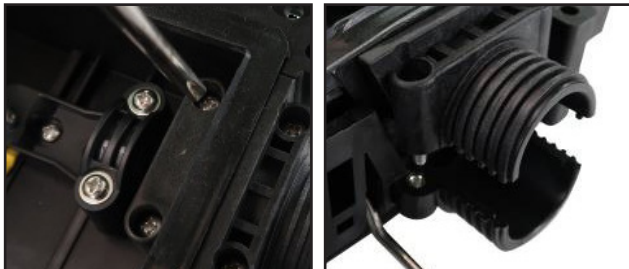

Figure 1-5: Loosen the screws
- 4 Loosen the four screws of the wedge (Figure 1-5).